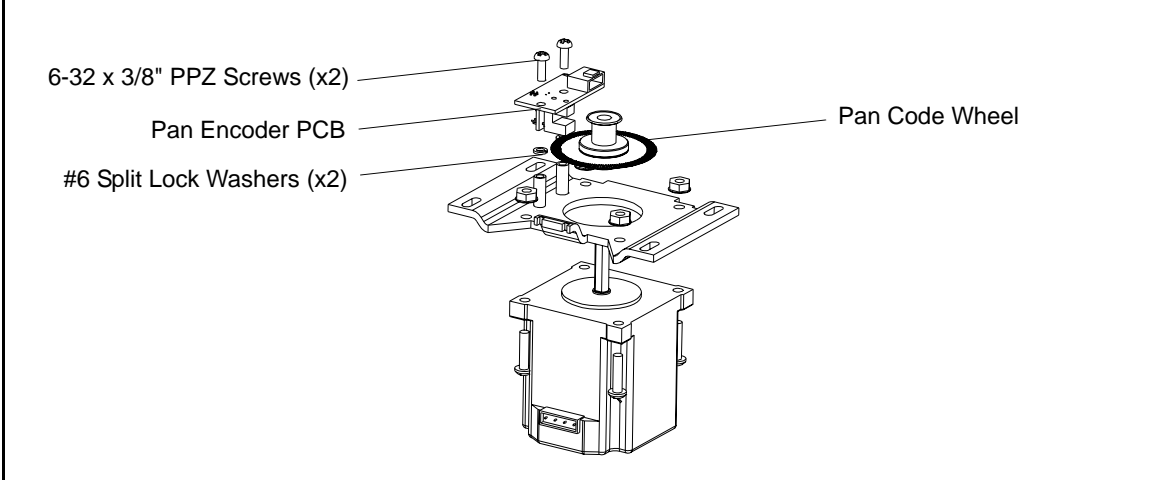

Figure 2-64: VLX Wash Pan Encoder PCB
- Step 3. Using 3/16" hex wrench and as indicated in Figure 2-64, remove four 1/4-20 x 2" CAP SOC screws and two 1/4-20 x 1.5" CAP SOC screws and remove base cover.
Step 5. As shown in Figure 2-64, remove two 6-32 x 3/8" PPZ screws and remove PCB. Note there are two #6 split lock washers between PCB and pan motor assembly.